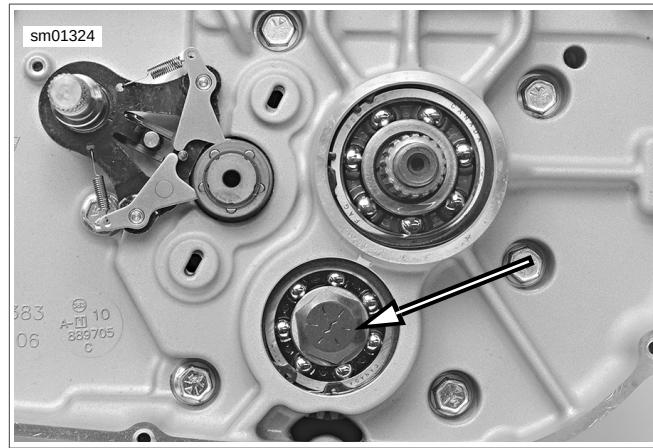

Figure 5-106. Countershaft Retaining Screw
3. See Figure 5-106. Apply several drops of LOCTITE 262 (red) to last few threads of countershaft retaining screw. Thread screw into end of shaft.